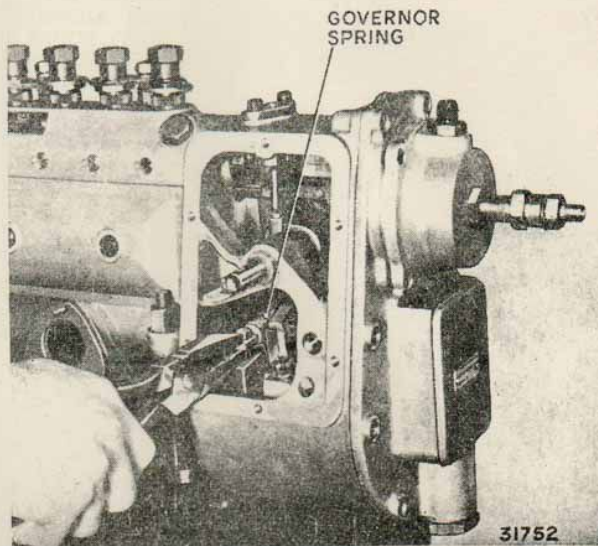

FIG. 46. RELEASING GOVERNOR SPRING.
5. Release the governor springs (Fig. 46).